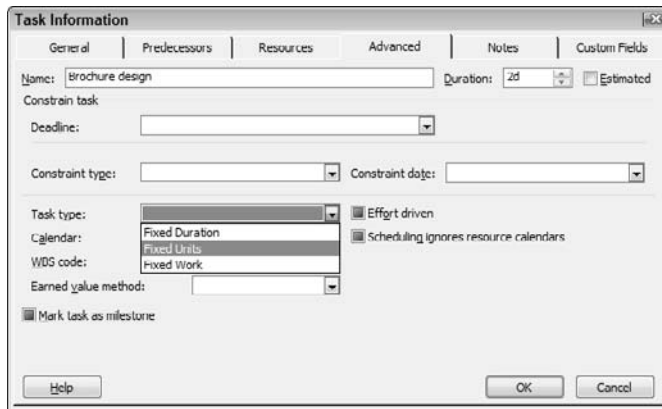

Figure 2-1:
2. Click the Advanced tab, if necessary, to display it (see Figure 2-1).
- 2. If necessary, click the General tab to display it (refer to Figure 2-1).**
2. Click the General tab if it's not already displayed; refer to Figure 2-1.